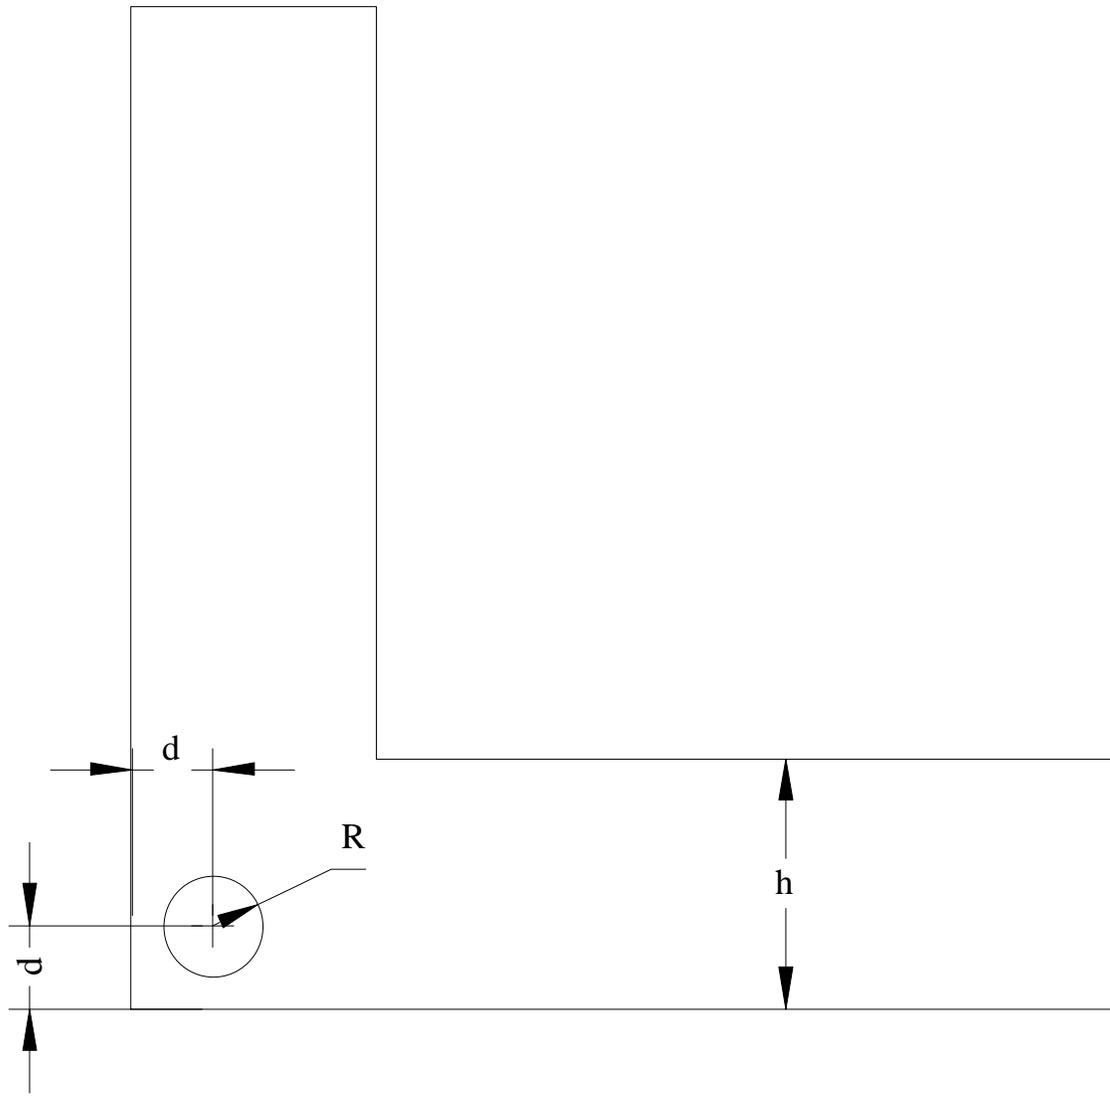

Figure 1. Schematic drawing of a waveguide bend
Shown in Figure 1 is a schematic drawing of a bend. Dimensions of bends for each frequency band are listed in Table 1. Shown in Figure 2-5 are the simulation results using HFSS. One of the bends was fabricated with flanges on both ends and measured using a Network Analyzer. The HFSS result was confirmed by the measured data.
- (1) w (not shown in Figure 1) is the width of the waveguide bend.
- (2) Dimensions of bends used for Band 2 are different from listed in Table 1 due to an earlier version of the design: R is 0.15 and d is 0.175. The performance is still very well: S11 is below -22.5 db.